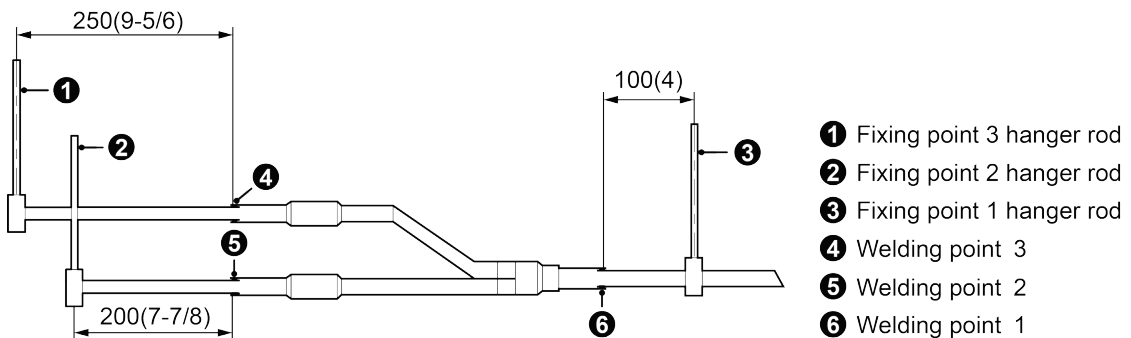

Fig.4.3.6
(4) There must be three fixing point for both horizontal and vertical installation of the Y-type manifold. See Fig.4.3.6.